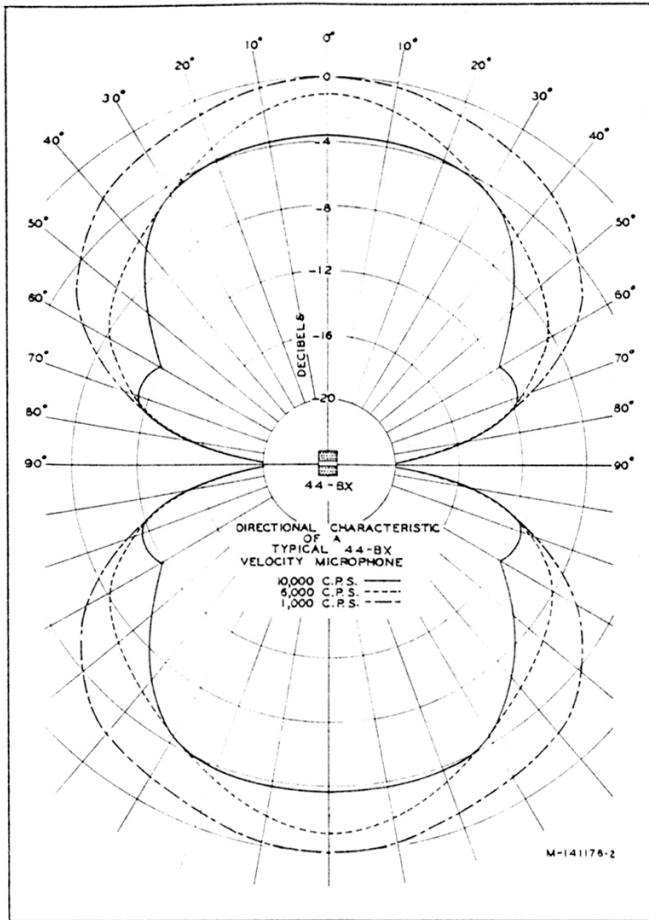

Figure 4—Directional Characteristics
(See curve Figure 4.)
One of the most important characteristics of the velocity microphone is its directional property. For equal distances from the microphone, the relative response to sound originating at various angles in a horizontal plane perpendicular to the ribbon is shown in Figure 4. Sound waves approaching the microphone from either direction along an axis perpendicular to the plane of the ribbon have the maximum effect. Sound waves from a direction in the same plane as the ribbon have little effect upon it.
3. Place instruments having a low frequency range at greater angles with the perpendicular to the microphone ribbon, while instruments having higher frequency ranges may be placed in line with this perpendicular or removed from it only by small angles. The mid-frequency instruments are, of course, spaced in between those having the higher and lower ranges. Referring to the chart (Figure 4) which shows the directional characteristics of the microphone will assist in placement of the various instruments and performers to the best advantage.